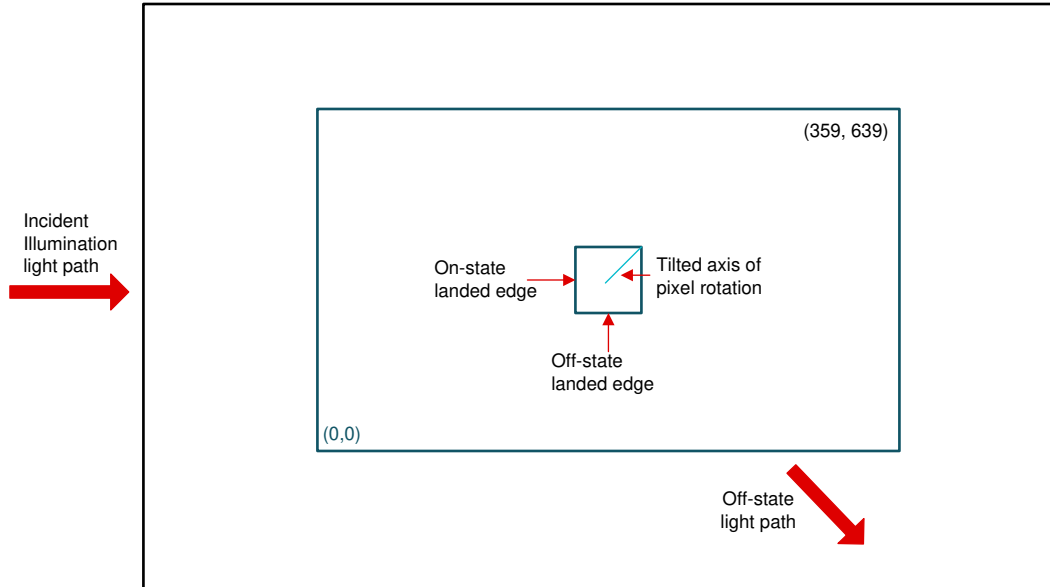

图 6-17. Landed Pixel Orientation and Tilt
- (1) Measured relative to the plane formed by the overall micromirror array.
- (2) Additional variation exists between the micromirror array and the package datums.
- (3) Represents the landed tilt angle variation relative to the nominal landed tilt angle.
- (4) Represents the variation that can occur between any two individual micromirrors, located on the same device or located on different devices.
- (5) For some applications, it is critical to account for the micromirror tilt angle variation in the overall system optical design. With some system optical designs, the micromirror tilt angle variation within a device may result in perceivable non-uniformities in the light field reflected from the micromirror array. With some system optical designs, the micromirror tilt angle variation between devices may result in colorimetry variations, system efficiency variations, or system contrast variations.
- (6) When the micromirror array is landed (not parked), the tilt direction of each individual micromirror is dictated by the binary contents of the CMOS memory cell associated with each individual micromirror. A binary value of 1 results in a micromirror landing in the ON state direction. A binary value of 0 results in a micromirror landing in the OFF state direction. See 图 6-17.
- (7) Micromirror tilt direction is measured as in a typical polar coordinate system: Measuring counter-clockwise from a 0° reference which is aligned with the +X Cartesian axis.
- (8) The time required for a micromirror to nominally transition from one landed state to the opposite landed state.
- (9) The minimum time between successive transitions of a micromirror.
- (10) Conditions of Acceptance: All DMD image quality returns will be evaluated using the following projected image test conditions: